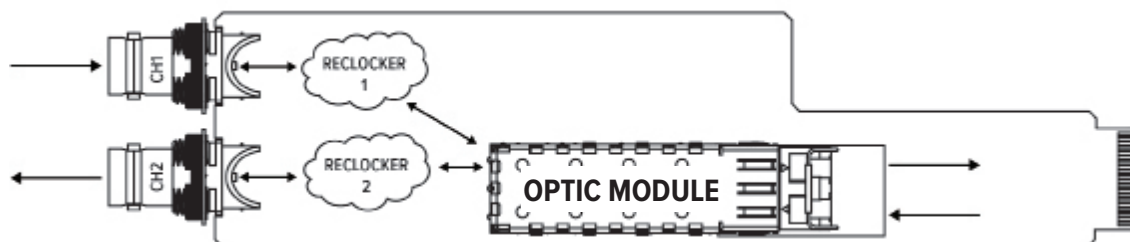

Figure 6. Sample Video Transceiver Signal Flow (1 SDI Input, 1 SDI Output).
- Transceiver (TRX), see Figure 6.